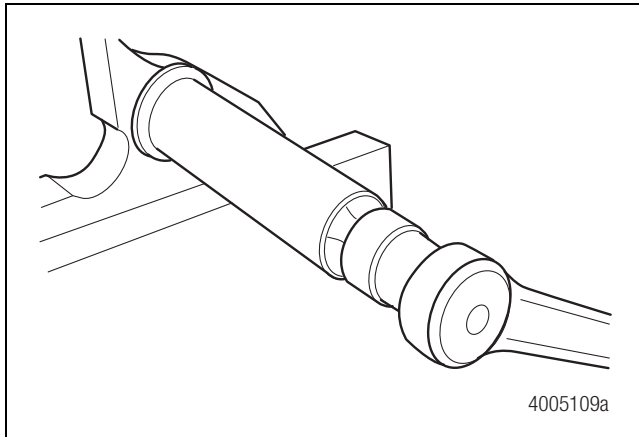

Figure 6.48
1. Before you remove the slide pins, note the locations of the long and short slide pins. Remove the slide pin bolts retaining the slide pins to the carrier. Figure 6.48. If necessary, carefully release the slide pins from their location on the carrier using a rubber or soft metal hammer.